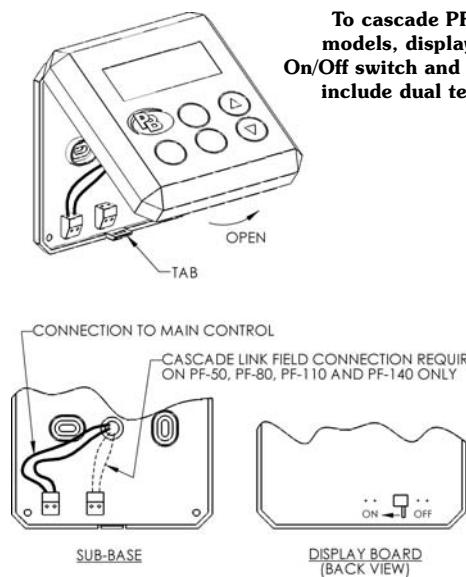

Figure 8.6: Cascade Link Connection & Switch Setting
- Remove the User Interface Display from the boiler by pressing the tab on bottom edge and rotating it outward and upward as shown in Figure 8.6.
- Slide the Master Switch Lever toward the center of the printed circuit board. The Master Switch Lever is not marked with “ON” or “OFF” but the switch is in the “ON” position when it is moved to the left as viewed from the back of the display. This position is shown in Figure 8.6.
- When a call for Central Heat (CH) or Domestic Hot Water (DHW) is present, the Master boiler chooses which boiler will lead based on the Cascade Rotation Interval.
To cascade PF-50 and PF-80 models, check that the display sub-base has the cascade link as illustrated in Figure 8.6.